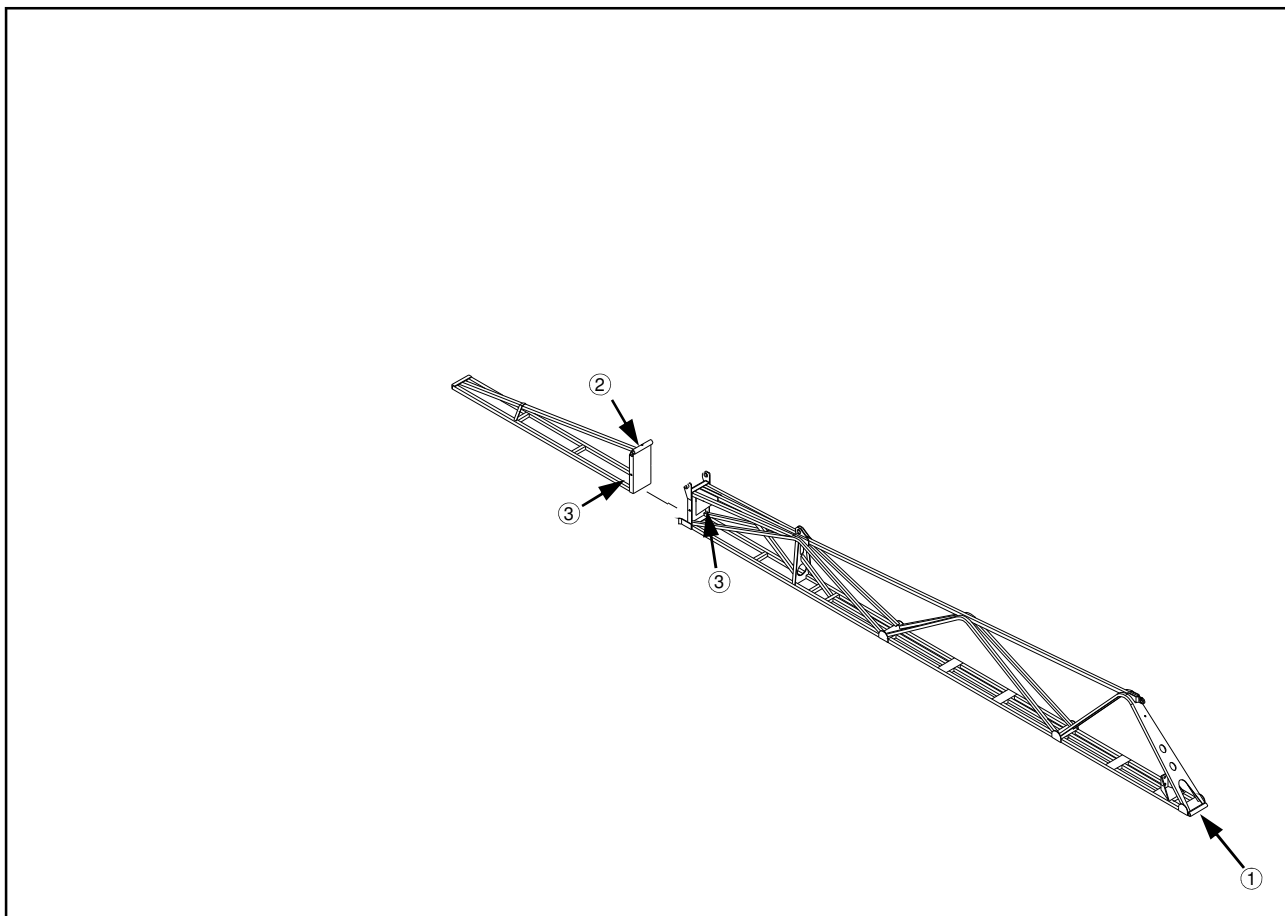

FIG 68-2
Sixty foot boom options have a grease zerk on the boom level pivot point connected to the breakaway (fig. 68-2, item 1) and the boom extension vertical folding pivot point (fig. 68-2, item 2). Check all and grease as required.